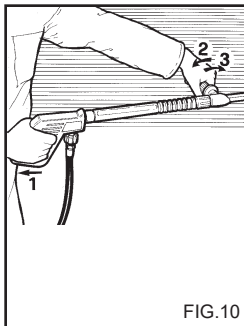

FIG.10
**USO DA LANÇA DUPLA (fig. 10).**